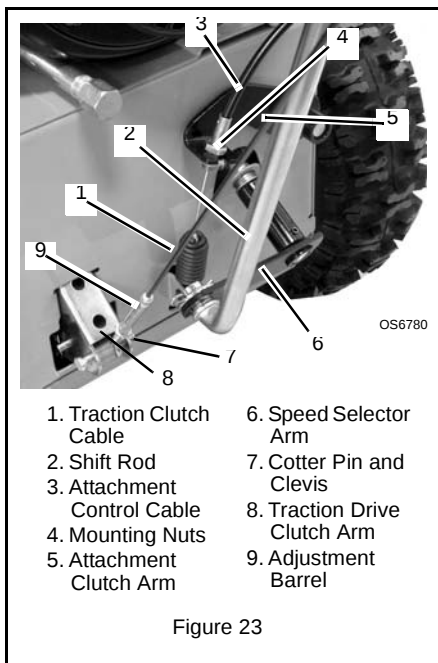

Figure 23
b. With the clutch bail disengaged, loosen the control cable mounting nuts on the attachment clutch arm (Figure 23).
To adjust traction clutch (Figure 23):